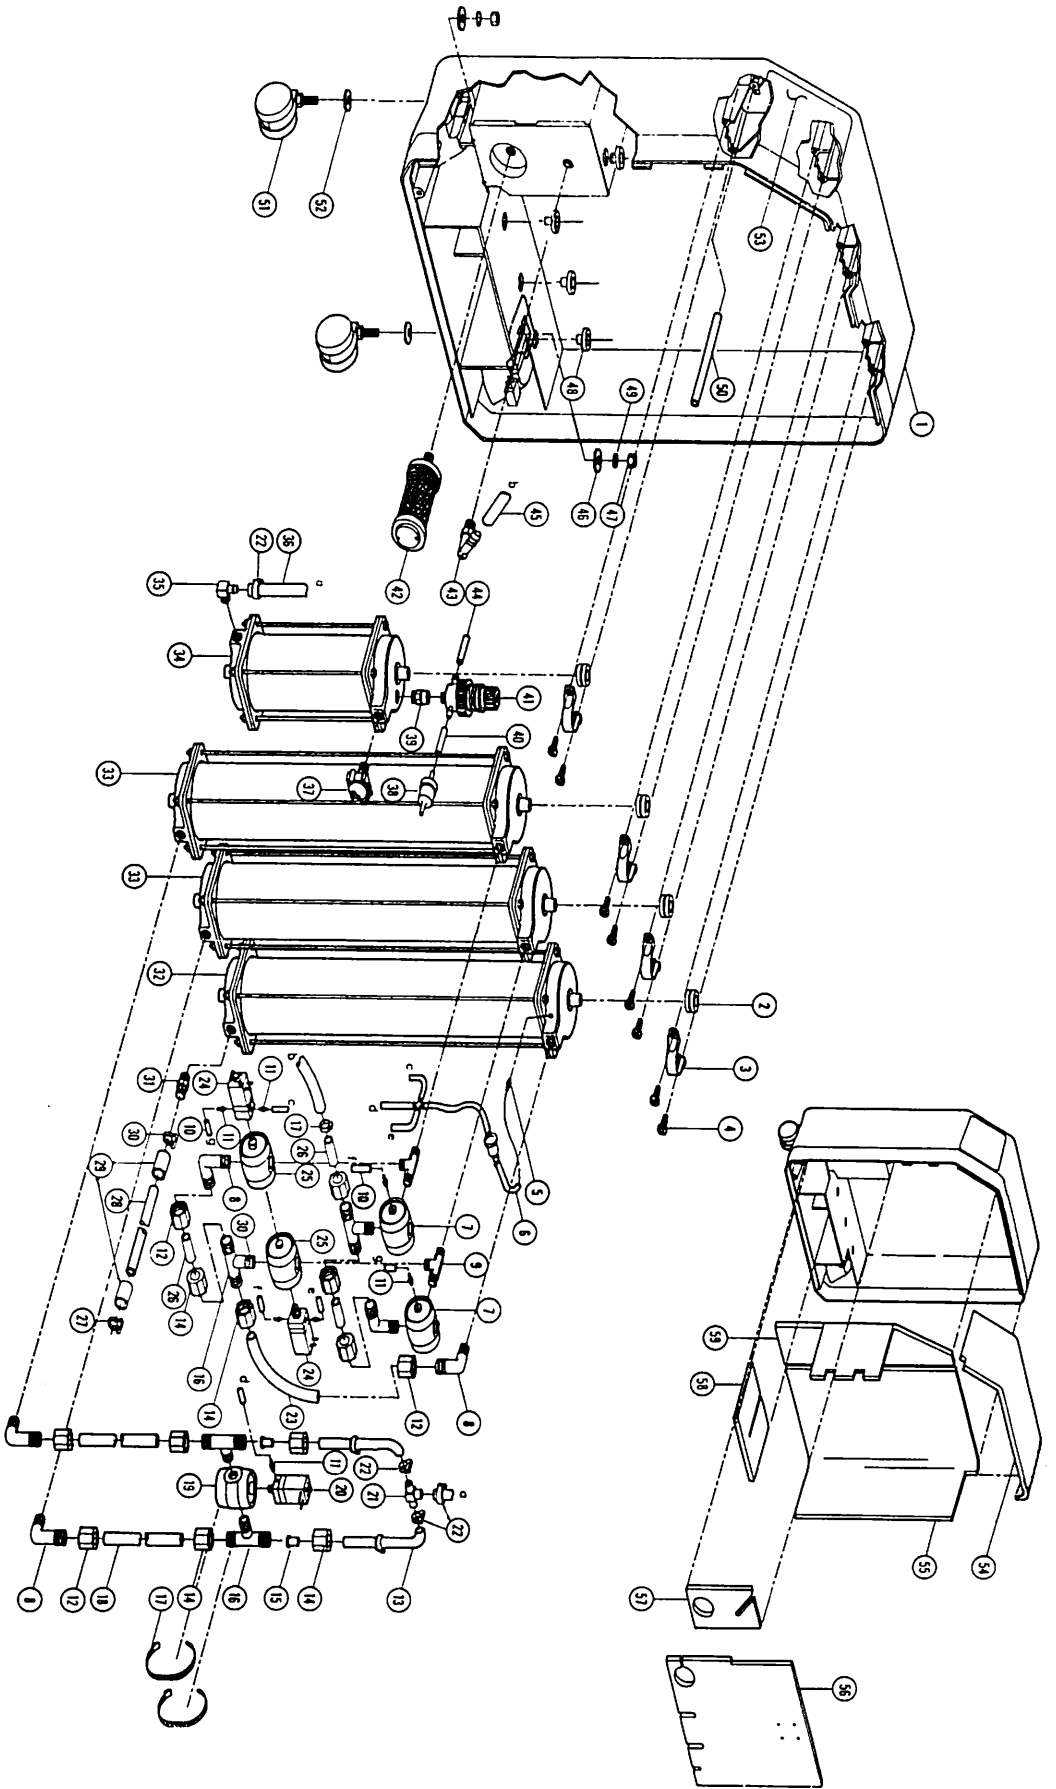

Figure 4-2: Left Cabinet Interior
**19. Restrictor Tube Assemblies 13 (Figure 4-2)**
## LEFT CABINET INTERIOR PARTS LIST (Figure 4-2)
## LEFT CABINET INTERIOR PARTS LIST (Figure 4-2) (continued)